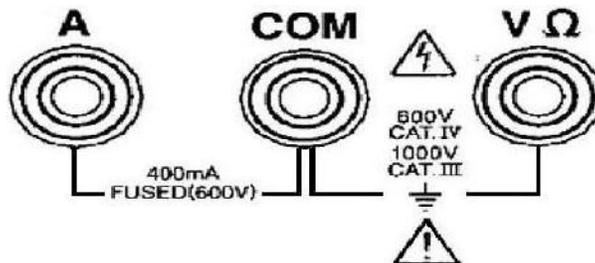

Figure 2.3: Multimeter Jacks/sockets
- ✓ Insert the black test lead banana plug into the negative (COM) jack. Insert the red test lead banana plug into the positive (V) jack. See the jacks/sockets in Figure 2.3.